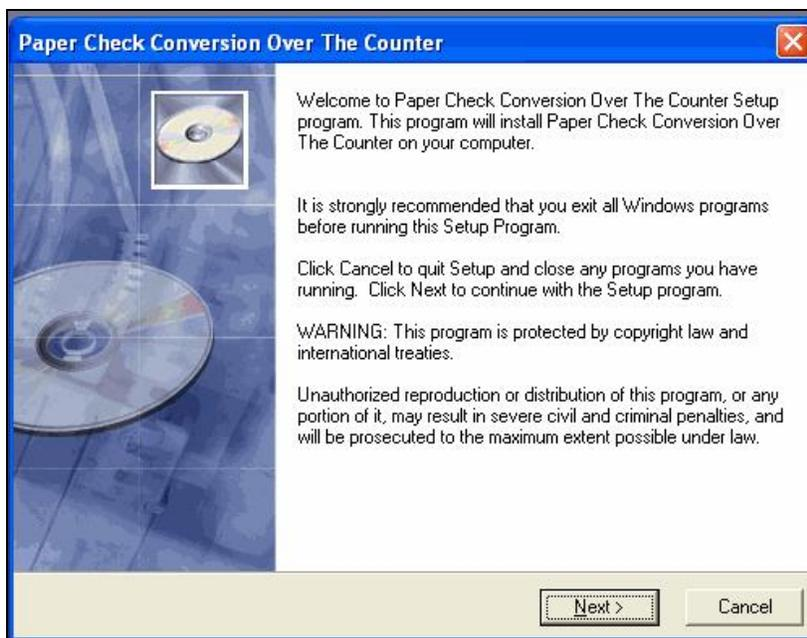

Figure 2.13
1. Insert the PCC OTC POS R5.1 CD into the CDROM drive. The disk should perform an autorun and the program begins the installation process. **Note: Autorun can be disabled on some computers. If the install does not automatically begin, click on 'Start', select 'Run' then click 'Browse'. Navigate to the CDROM drive, usually D:\ or E:\. Double-click the file named 'setup.exe'. From the 'Run' window, click 'OK'.** The Start Installation window appears (Figure 2.13). Click 'Next'.